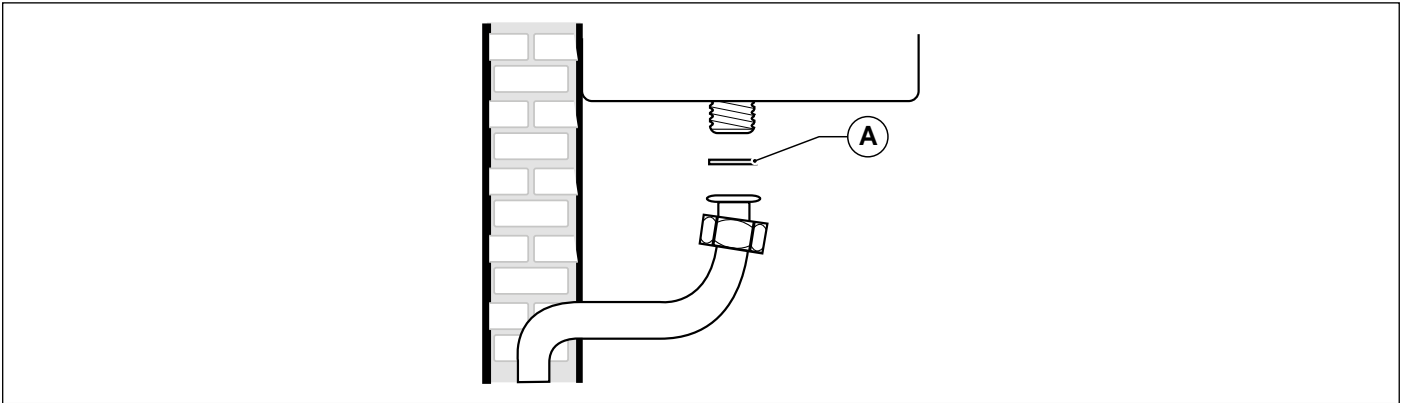

Fig. 22 Connection to gas mains
When connecting the boiler to gas supply network, it is **COMPULSORY** to install an appropriately sized gasket (A) made from suitable material (see Fig. 22 Connection to gas mains).